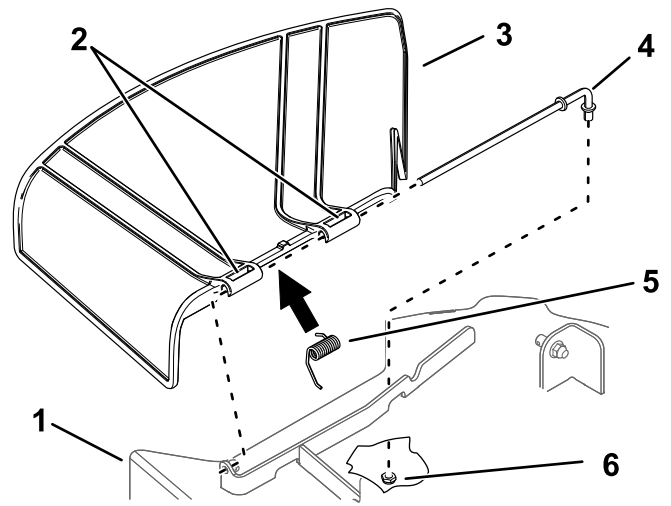

Figure 64
1. Remove the nut (3/8 inch) from the rod under the mower (Figure 64).
2. Slide the rod out of the deck bracket, spring, and grass deflector (Figure 64).
4. Install the new grass deflector (Figure 64).
7. Slide the rod through the second grass-deflector pivot (Figure 64).
9. Secure the rear end of the rod into the mower with a nut (3/8 inch) as shown in Figure 64.